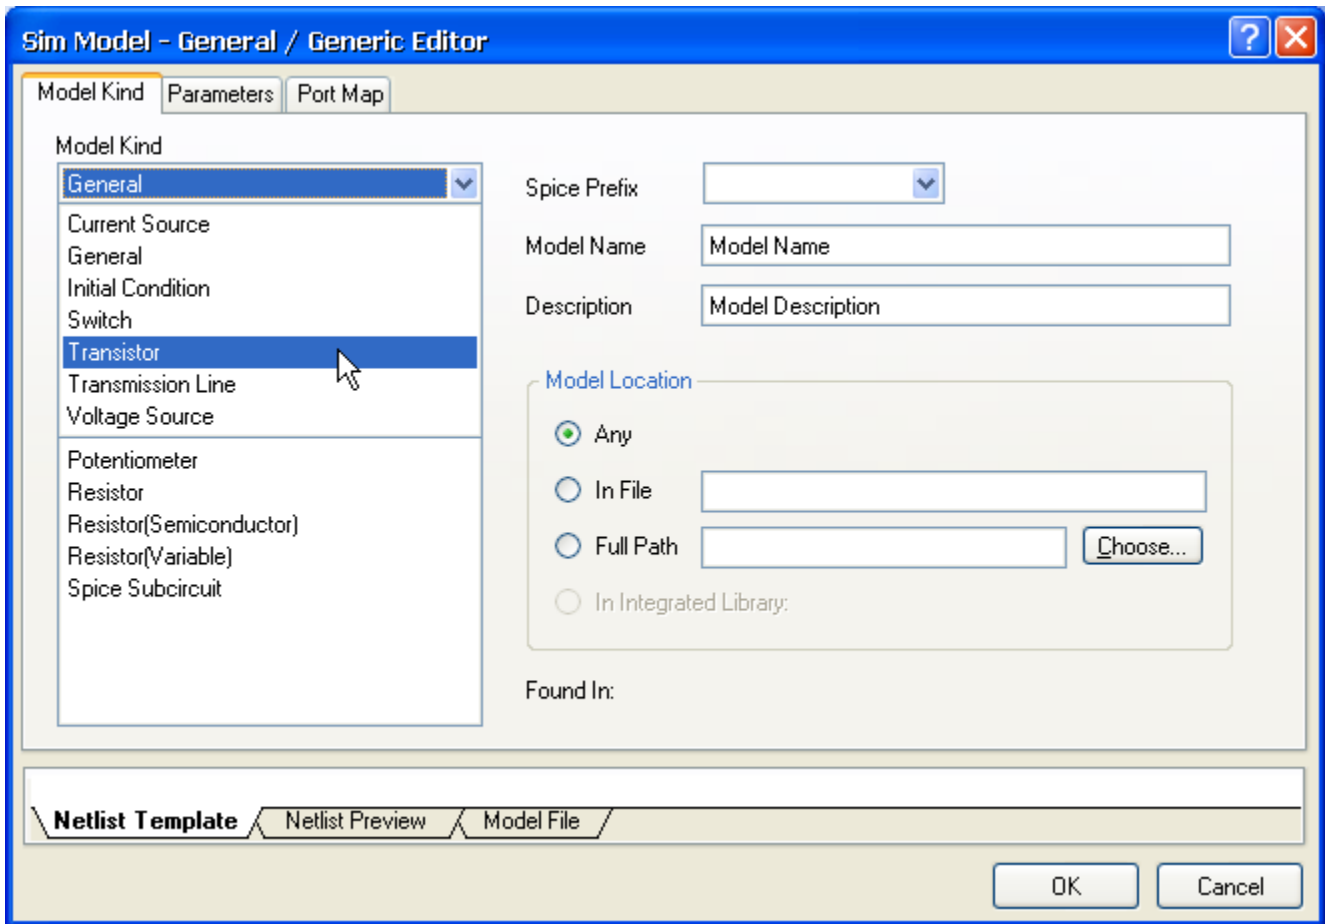

Figure 19. Specifying and configuring all Spice model kinds is done in the Sim Model dialog.
4. The default search path is the current folder, since you have copied the model to your working folder you can simply click **OK** . To confirm that the model will be found click the **Refresh List** button in the *Options* dialog (Figure 19). Now that the search path is defined any model stored in the working folder will automatically be found.
5. Now that the model is available to the project you are creating (the library package New Library.LibPkg), it is time to add the simulation model to the NPN component. To do this follow the same steps you followed to add the footprint model, except choosing **Simulation** model this time. The *SIM Model - General / Generic Editor* dialog displays (Figure 19).